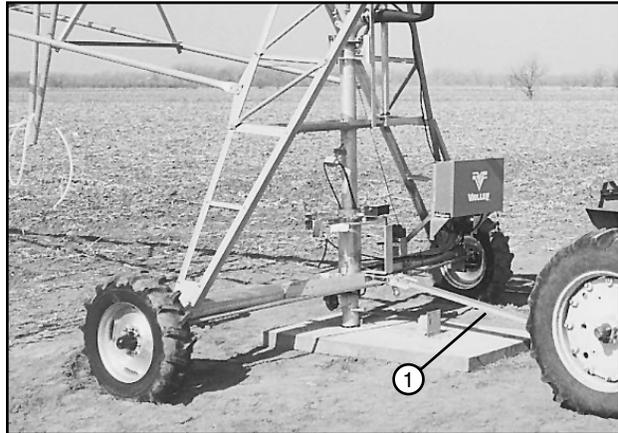

Figure 40-1 1. Tongue
12. Attach the tongue to the towing unit. See figure 40-1.